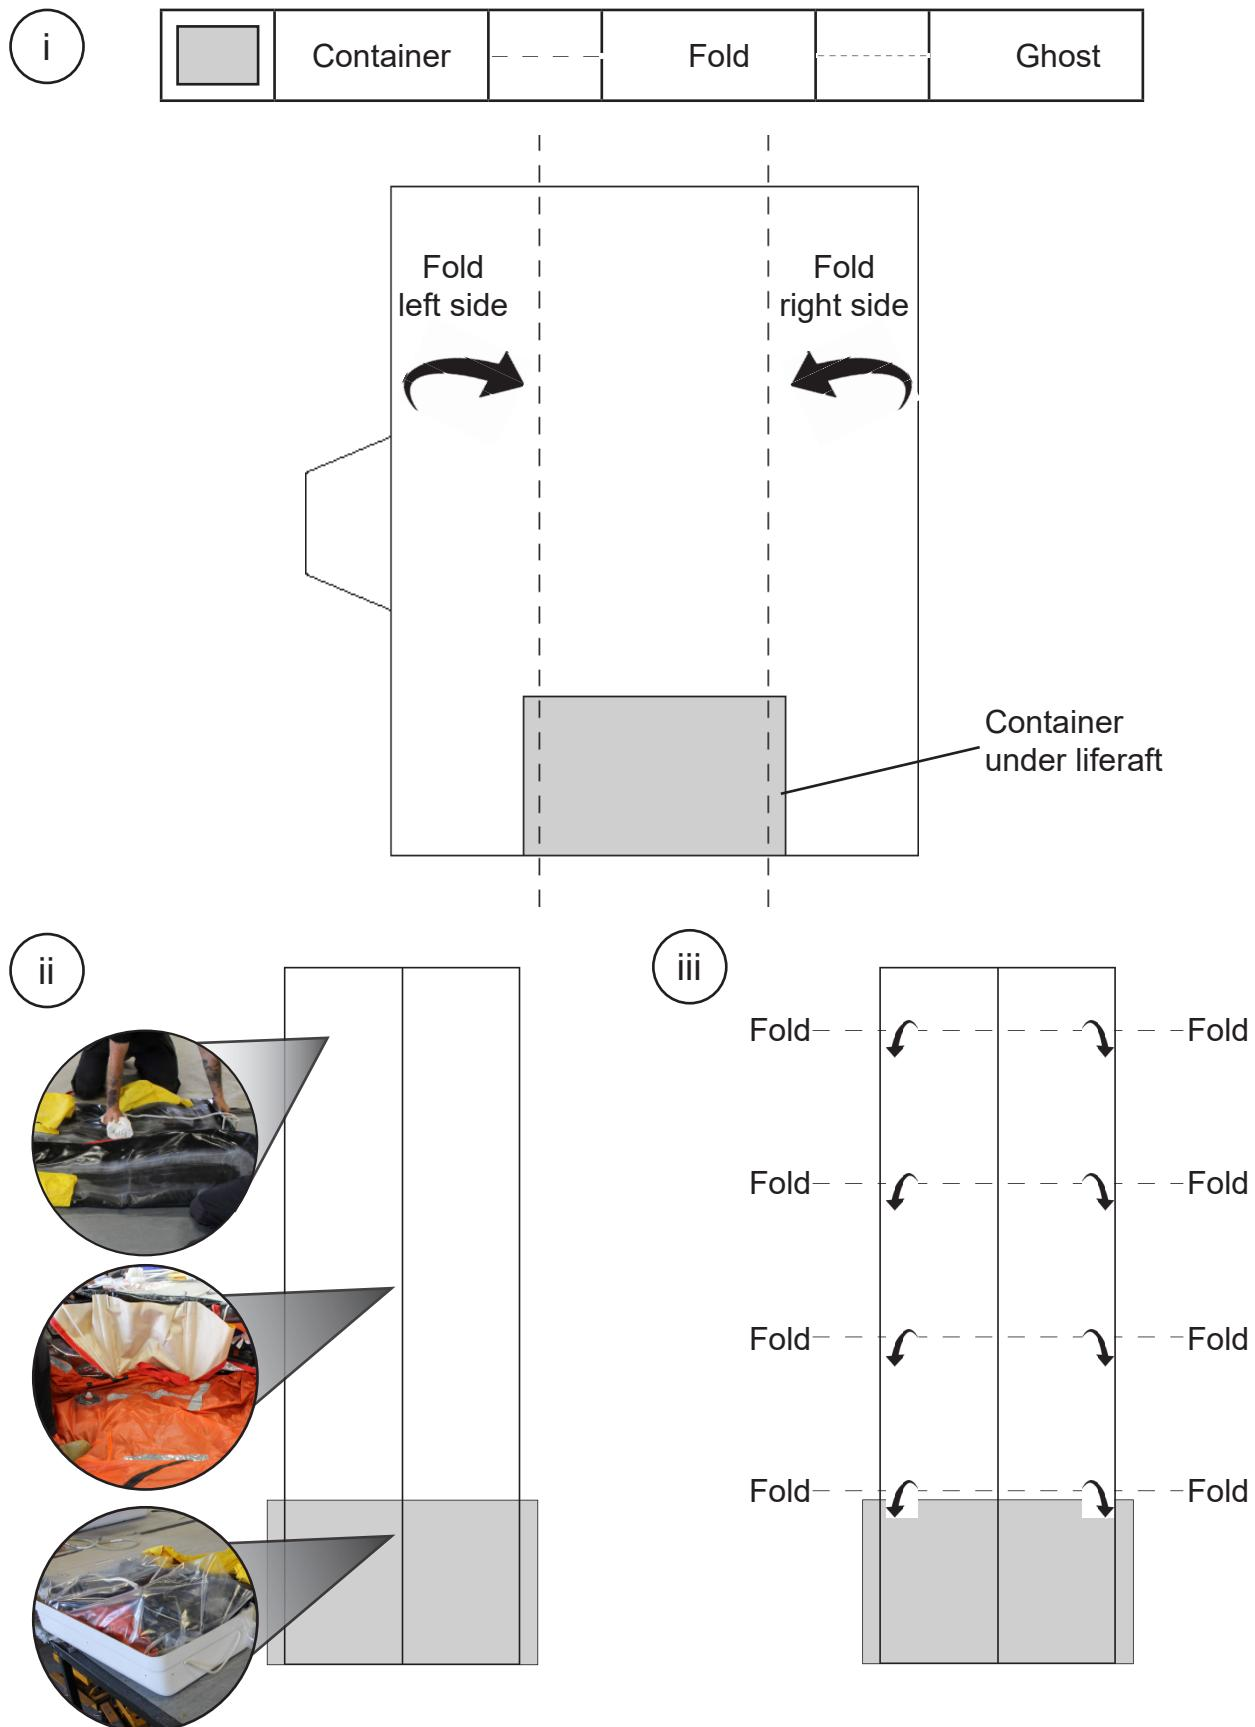

FIGURE 883
Refer to **Figure 883**.
Refer to **Figure 883 (i)**.
Refer to **Figure 883 (ii)**.
Refer to **Figure 883 (iii)**.
- (h) Use three full folds to fold the liferaft into the container. Make sure each fold is as tight as possible. Refer to **Figure 883 (iii)**.